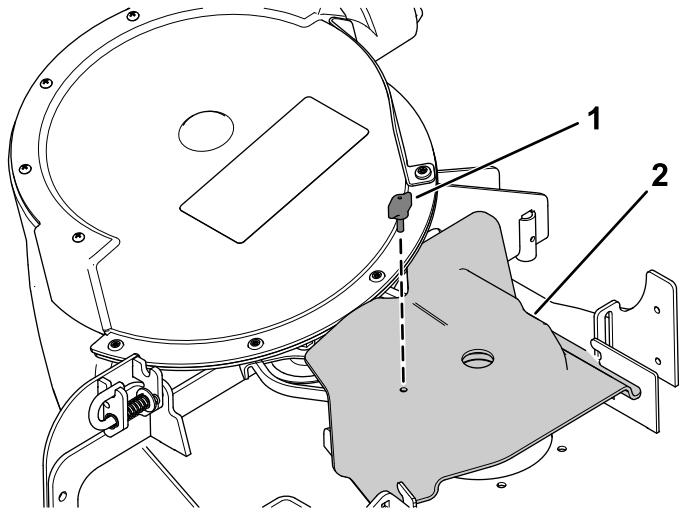

Figure 48
- Install the blower-belt cover over the blower belt and secure the blower-belt cover with the knob (Figure 48).